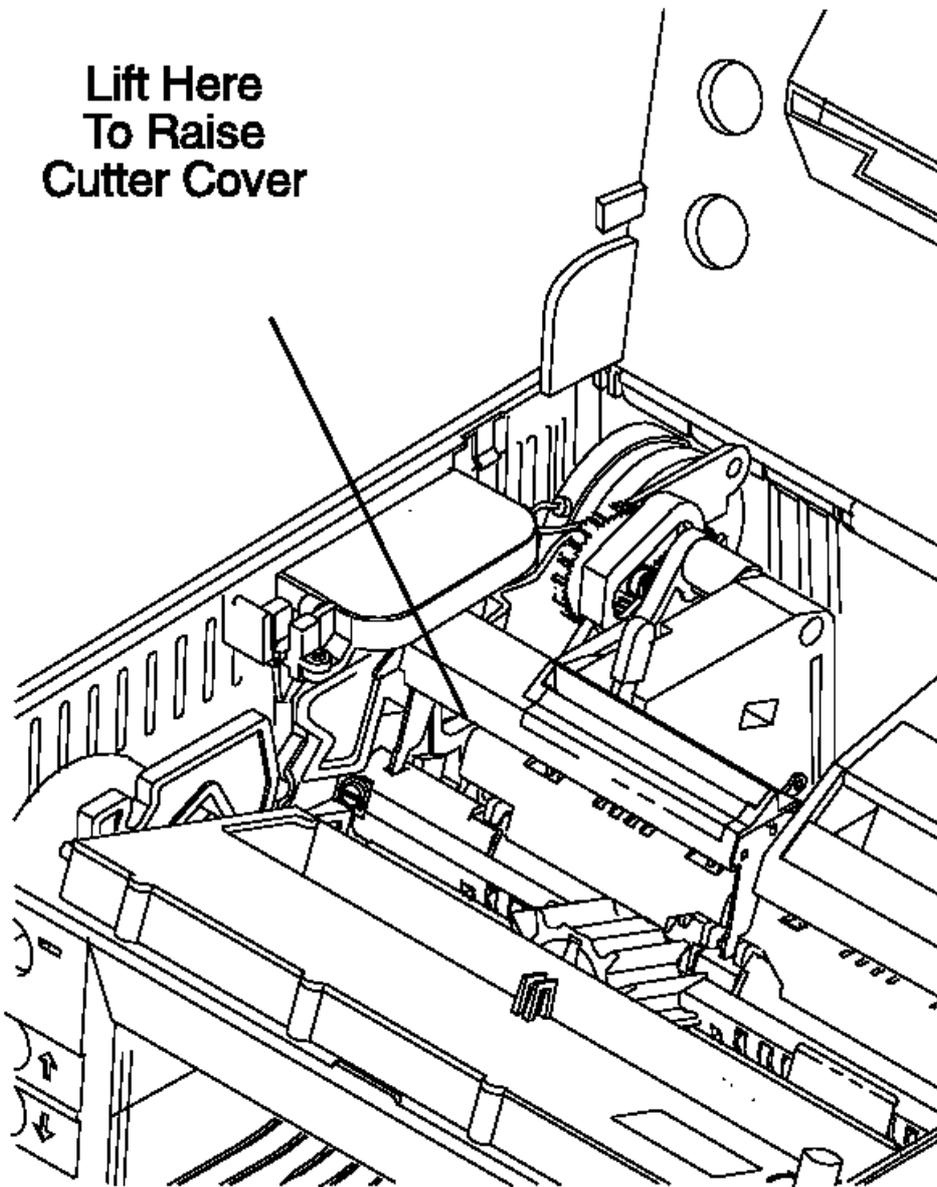

Figure 6-8. Paper Cutter
- Open the paper cutter cover by pulling up on the front of it. See Figure 6-8.
- See Figure 6-8.
The paper cutter gears, (1) in Figure 6-8, should move smoothly and the paper cutter blades should completely retract.